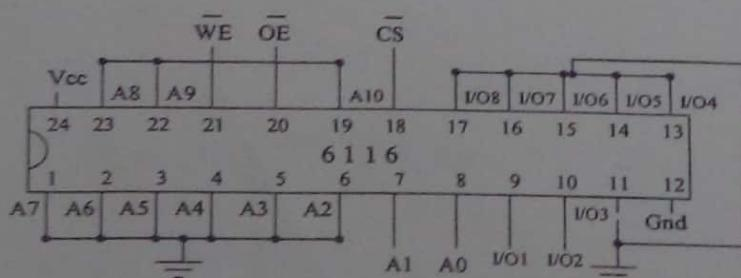

Fig. 1. Memory read/write (manual)
a) Perform data write to RAM (6116) and read data from the RAM (consider 4×2 memory as shown in Figure 1). Set address and data manually.